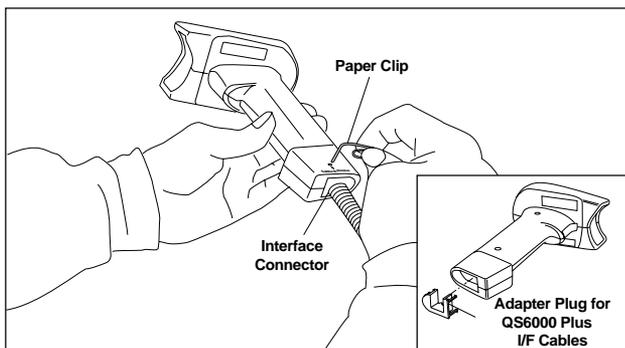

Figure 3. Disconnecting the Interface Cable.
1. Insert a .050" hex driver or bent paper clip into the CABLE RELEASE hole, and press down to unlock the cable connector. Refer to Figure 3.